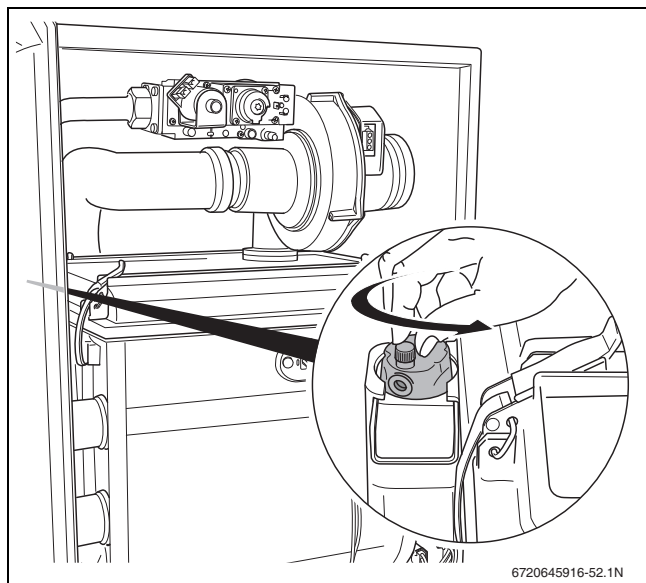

Fig. 56 Opening the automatic air vent
- Loosen the cap of the automatic air vent (→ fig. 56) by turning $\frac{1}{4}$ rotation counterclockwise.